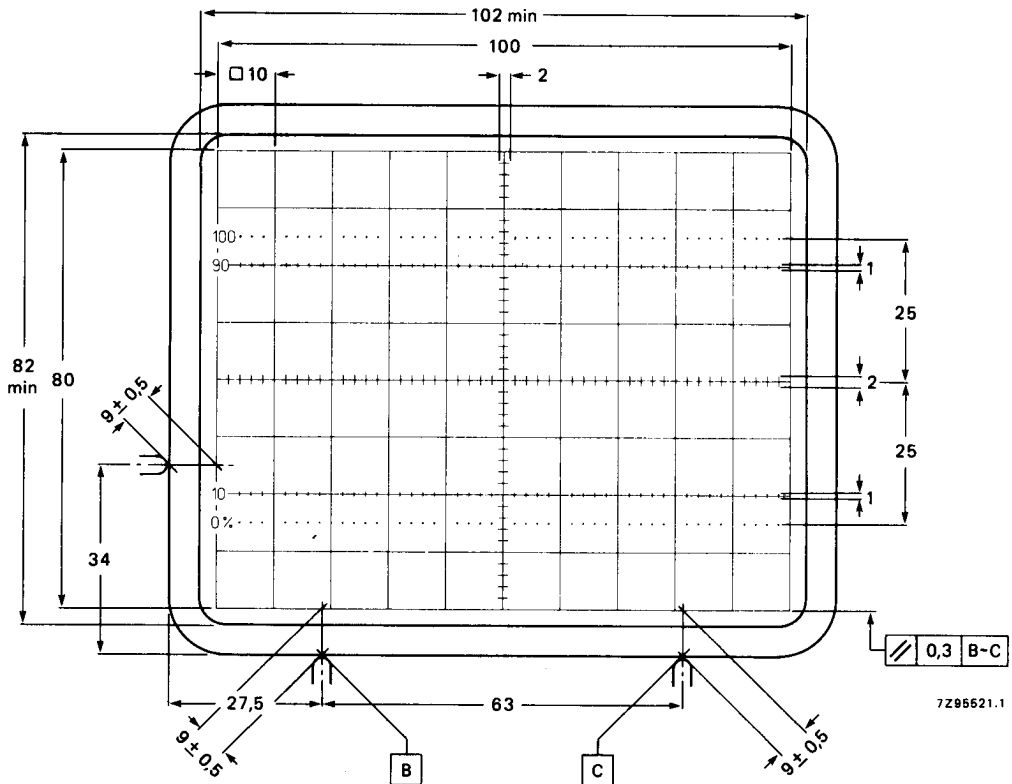

Fig. 4 Front view of tube with internal graticule, type 123. The faceplate reference points are used for aligning the graticule with the faceplate.
Internal graticule	type 123; see Fig. 4
The tube can be mounted in any position. It must not be supported by the socket and not by the base region alone. The reference points on adjoining edges of the faceplate (see Fig. 4) enable the tube to be mounted accurately in the front panel, thus providing optimum alignment of the internal graticule.
4. Reference points on faceplate for graticule alignment (see Fig. 4).
1. As the frit seal is visible through the faceplate, and not necessarily aligned with the internal graticule, application of an external passe-partout with open area of max. 102 mm x 82 mm is recommended. The internal graticule is aligned with the faceplate by using the faceplate reference points (see Fig. 4).